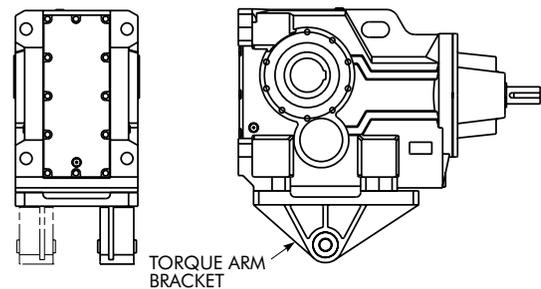

FIGURE 6
3. Assemble torque arm bracket to drive in the required position (see Figure 6) and secure using the fasteners furnished. Torque fasteners to the value shown in Table 4, Page 5 — Tightening Torques.